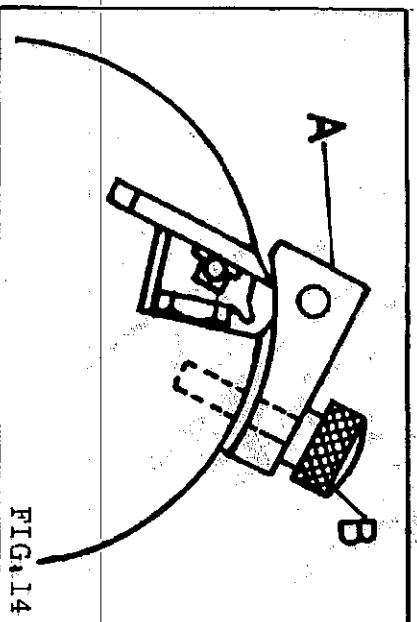

FIG.14
- 1 Turn the cutterblock to approximately the position shown in FIG.14 and loosen the 5-M12 (T5) hexagon head screws, carefully remove knife from cutterblock.
- 2 To re-set the knives the cutterblock should be in the approximate position shown in FIG.14. Place the knife in between wedge and cutterblock with the blade drawn forward slightly.